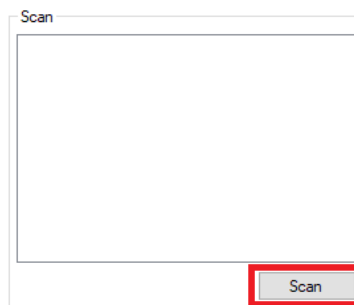

Figure 16: Station Mode – SCAN
2. Click the **Scan** button to scan APs. See Figure 16.